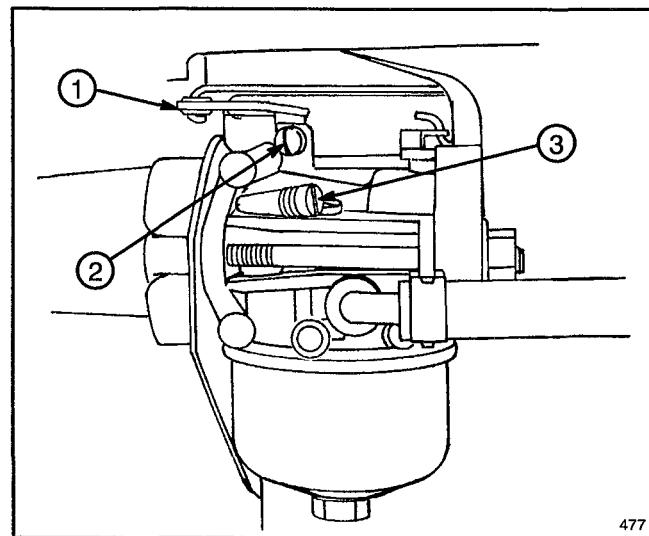

Figure 20
1. Gently turn idle mixture valve clockwise until it just closes (Fig. 20). Turning valve in too far may cause damage.
4. Rotate throttle (Fig. 20) counterclockwise and hold against idle speed adjusting screw (Fig. 20) while turning idle speed adjusting screw to obtain 1750 RPM.